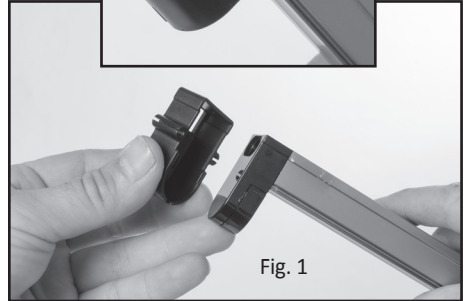

Fig. 1
1. Place the plastic caps onto the fixture. Please disregard this step if the plastic caps are pre-placed (see Figs. 1 & 1a).